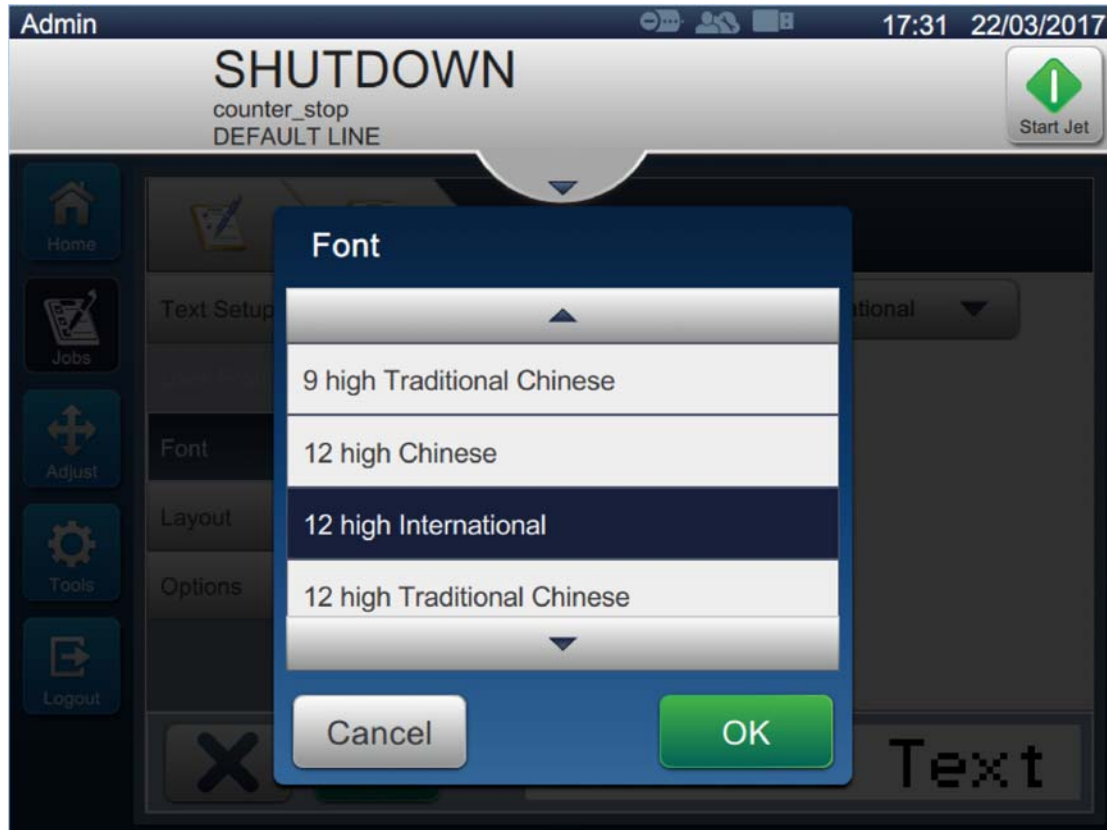

Figure 5-16: Font Size Input Screen
8. Touch the *Font* button and select “12 High International” from the drop down list as shown in Figure 5-16. Touch the  button.
20. Touch the *Font* button and select “12 High International” from the drop down list as shown in Figure 5-16. Touch the  button.
28. Touch the *Font* button and select “12 High International” from the drop down list as shown in Figure 5-16. Touch the  button.